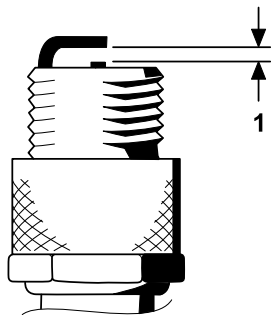

Figure 35
- Set the air gap between the center and side of the electrodes at 0.76 mm (0.030 inches) as shown in Figure 35.